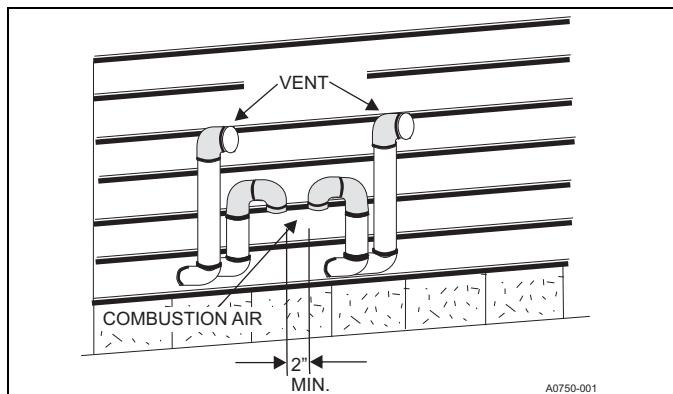
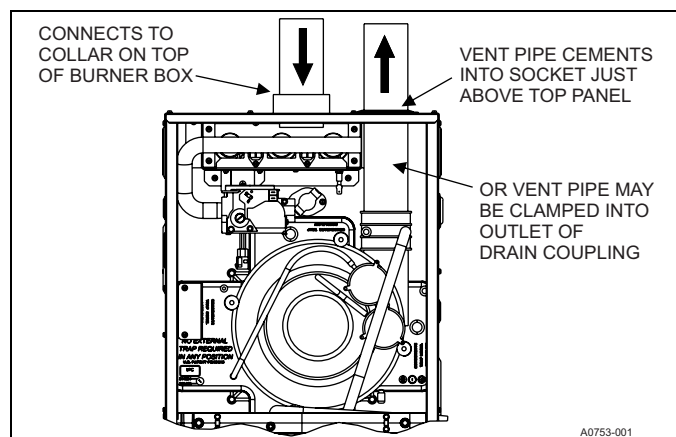

Figure 32: Double horizontal combustion air intake and vent term
Figure 35: Direct vent air intake connection and vent connection
The combustion air side of the two-pipe configuration shown in Figure 35 can be installed so the combustion air pipe terminates as described in the *outdoor combustion air* or *ventilated combustion air* sections in these instructions. Follow the instructions for *outdoor combustion air* or *ventilated combustion air*, and the instructions for *installing the vent system* with the vent terminating as shown in Figures 32 or 33. The two-pipe system must have a separate combustion air pipe and a separate vent pipe for each furnace. **Under no circumstances** can the two combustion air or vent pipes be tied together. The combustion air and vent pipes must terminate in the same atmospheric zone.
1. **Outdoor combustion air:** This is a direct vent configuration where the combustion air is supplied through a PVC, CPVC, or ABS pipe that is connected to the coupling attached to the burner box and is terminated in the same atmospheric zone as the vent. This type of installation is approved on all models. See Figure 35.
This installation requires combustion air to be brought in from outdoors. This requires a correctly sized pipe (see Figure 35) that will bring air in from the outdoors to the furnace combustion air intake collar on the burner box. The second pipe (see Figure 35) is the furnace vent pipe.